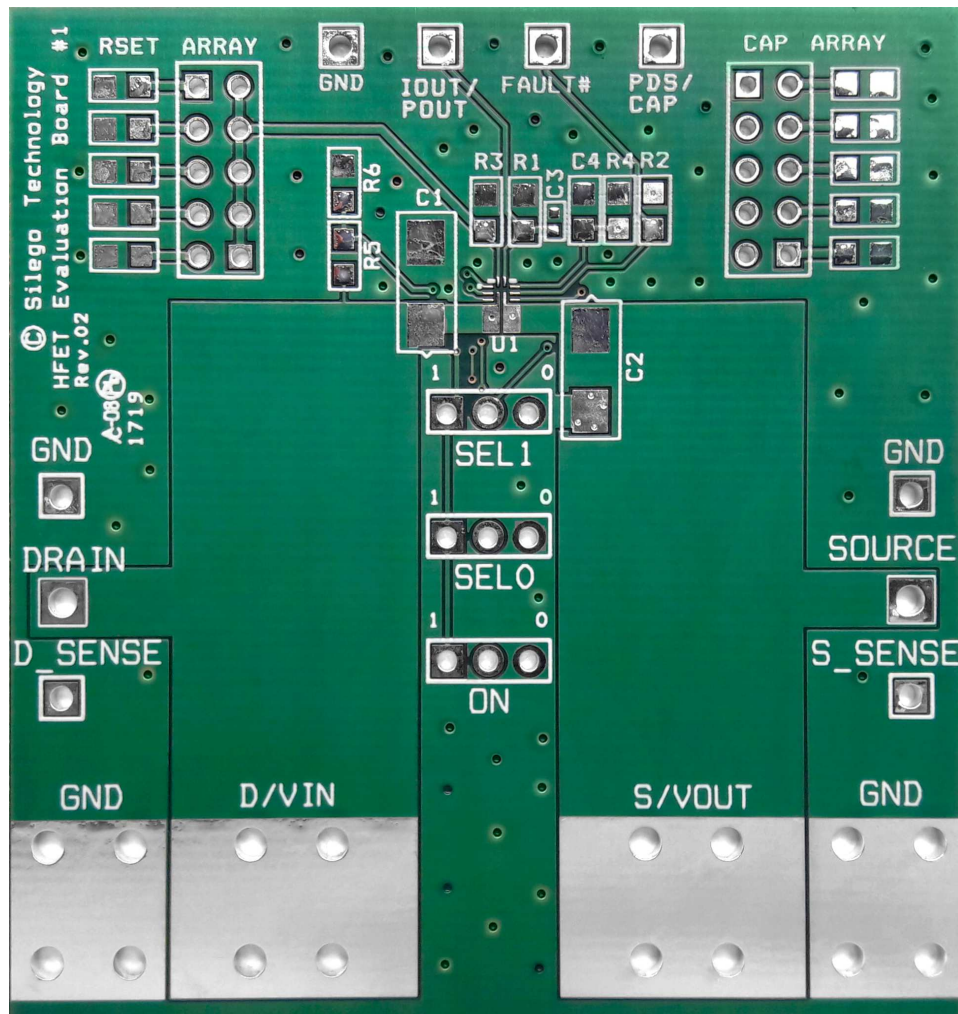

Figure 10. SLG59H1120V Evaluation Board
1. Since the VIN and VOUT pins dissipate most of the heat generated during high-load current operation, it is highly recommended to make power traces as short, direct, and wide as possible. A good practice is to make power traces with an absolute minimum widths of 15 mils (0.381 mm) per Ampere. A representative layout, shown in Figure 10, illustrates proper techniques for heat to transfer as efficiently as possible out of the device;
A High Voltage GreenFET Evaluation Board for SLG59H1120V is designed according to the statements above and is illustrated on Figure 10. Please note that evaluation board has D_Sense and S_Sense pads. They cannot carry high currents and dedicated only for RDS_{ON} evaluation.